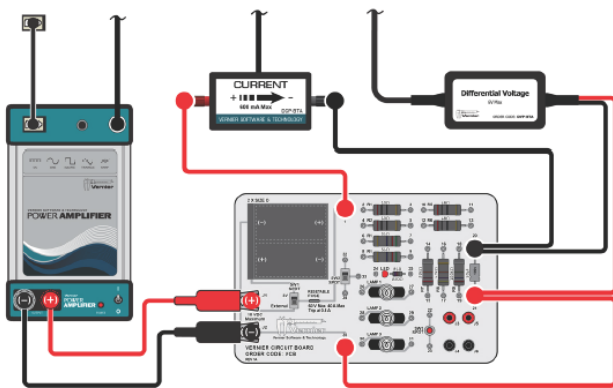

Figure 2
- a. Set up the circuit with a  $10\ \mu\text{F}$  capacitor in series with a current probe, as shown in Figures 2 and 3. The Voltage Probe will measure the potential difference across the capacitor plates.